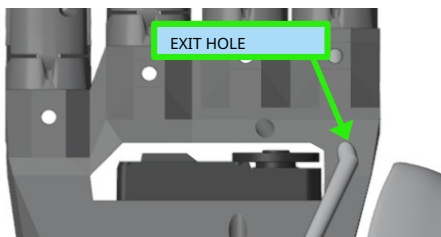
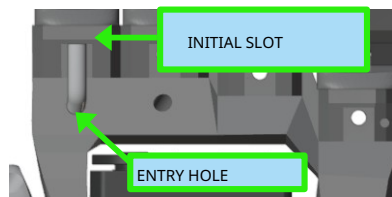

Figure 5.20: Inserting tube into the hole of tendon exit (rear view)
Figure 5.22: Inserting tube into the initial slot (front view)
1. Insert the PTFE tube into the exit hole (on the back of the skeleton) of the flexion tendon (figure 5.20), pull it out from the entry hole on the front of the skeleton and insert it into the initial slot figure 5.22)